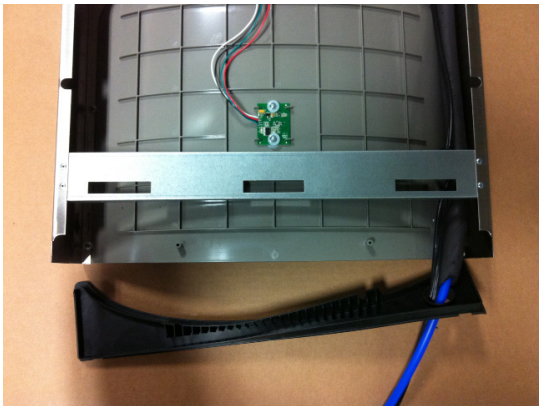

Fig. 10
- 7) **Feed power cord & 3/8" water line** through hole in tower/basin gasket (See Fig. 10).